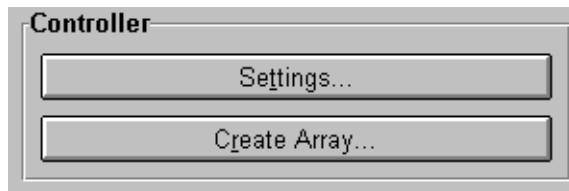

Figure 6-4. Controller buttons
3. Click the Controller Settings button shown in Figure 6-4.